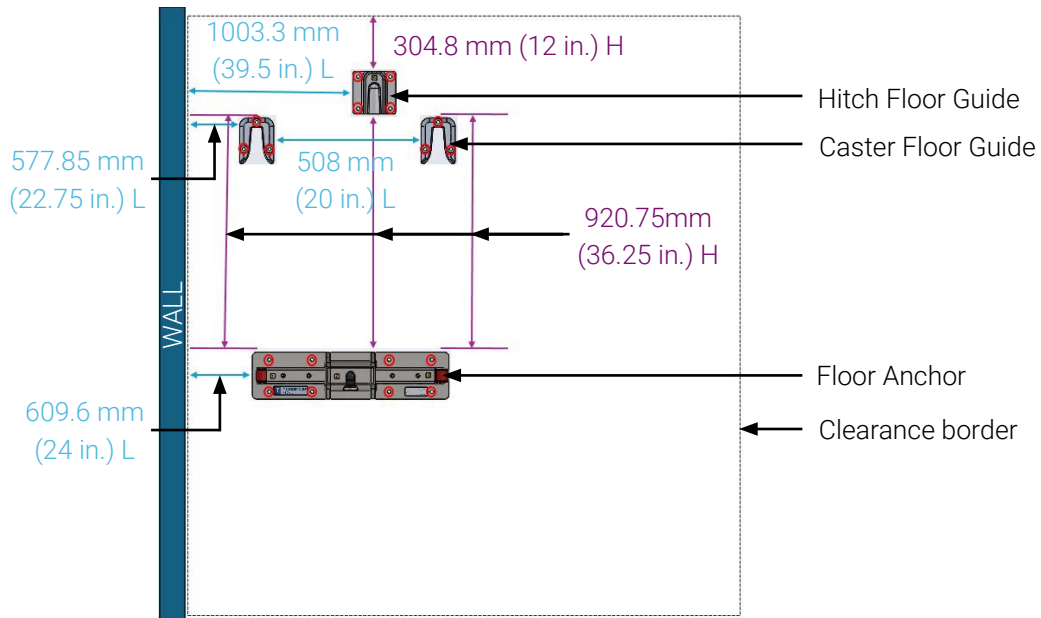
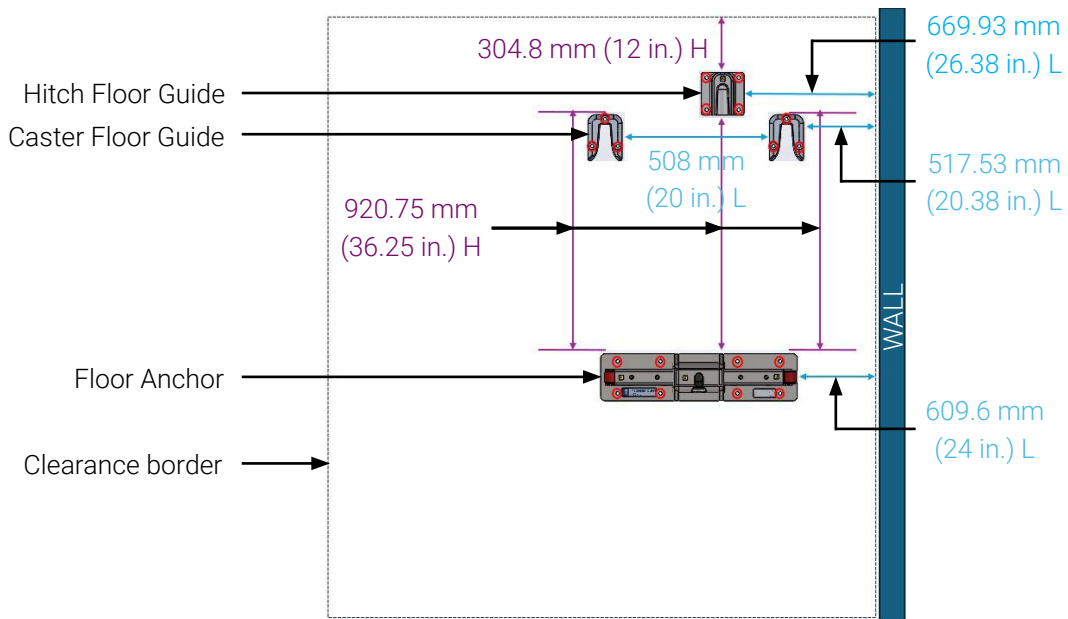

Figure 26: AnchorMed Floor Mount components measures taken from patient right (corner installation)
Figure 27: AnchorMed Floor Mount components measures taken from patient left (corner installation)
- For a corner installation, refer to Figure 26 for measurements taken patient right and Figure 27 for measurements taken from the left.